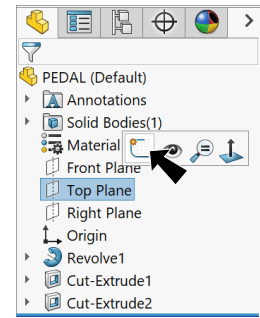

Fig. 16
Step 1. Click **Top Plane**  in the Feature Manager and click **Sketch**  on the context toolbar, **Fig. 16**.